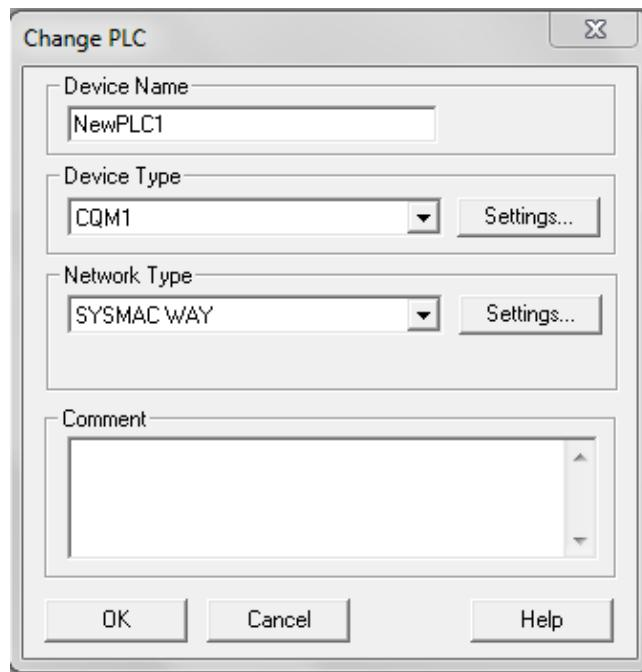

Figure 1.3 Change PLC
2. Click the **Start Menu**→**All Programs**→**OMRON**→**CX-One**→**CX-Programmer**. Click **File menu**→**New** or by pressing **Ctrl+N** so Change PLC window will appear as shown in Figure 1.3.